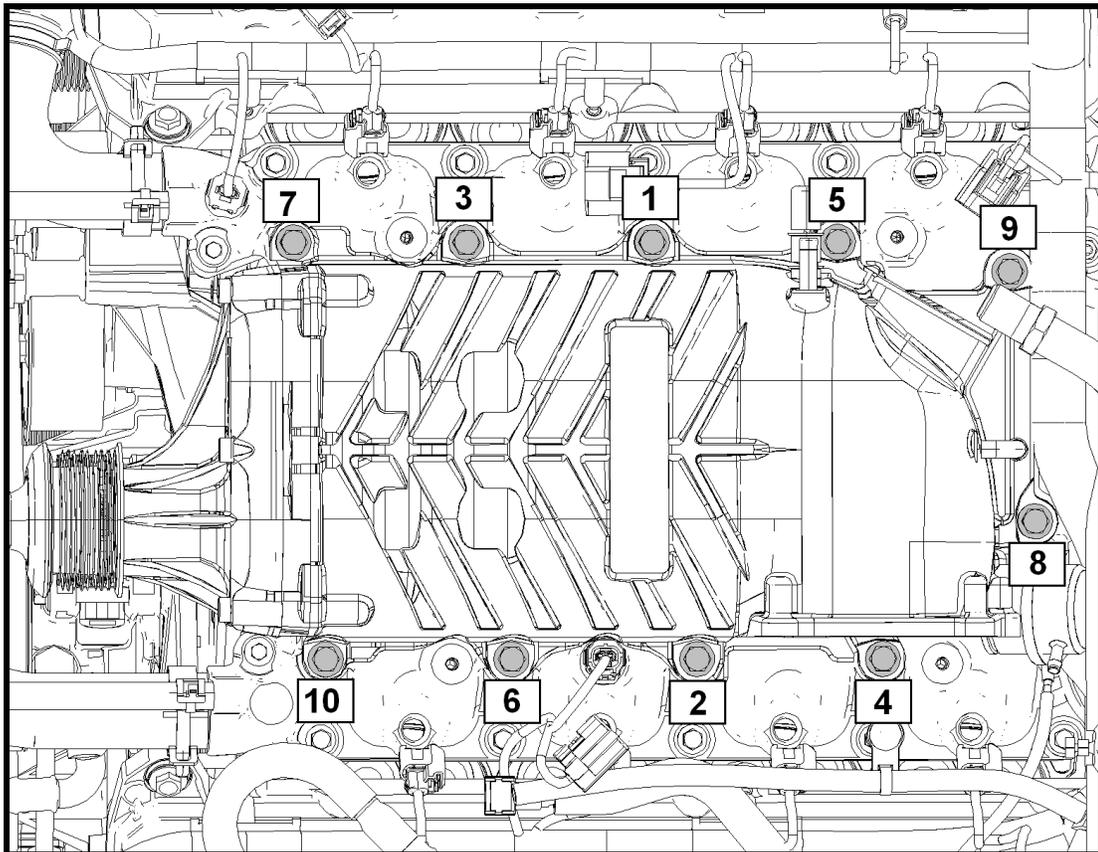

Fig. 16
**STEP 1:** Install the new supercharger to the intake manifold using the stock fasteners. Torque the fasteners to 5 Nm (44 lb in) using the inside-out pattern shown below (See Fig. 16). Repeat this procedure and torque each fastener to 25 Nm (221 lb in).